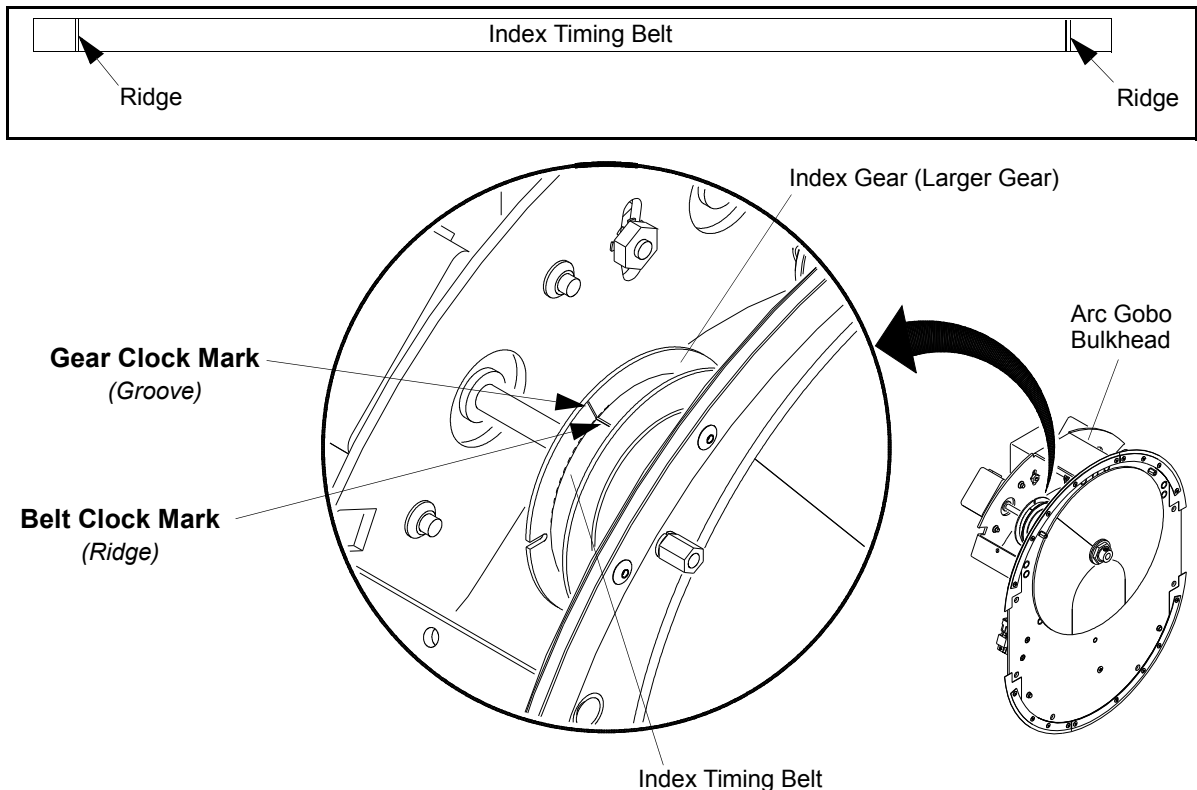

Figure 2-10: Aligning Index Gear Groove and Clock Mark
- Step 1. At large gear, align one of Index Timing Belt's *clock marks* with small groove at inside of Index Gear. The Index Timing Belt contains two *clock marks* (two ridges) as seen in Figure 2-10.